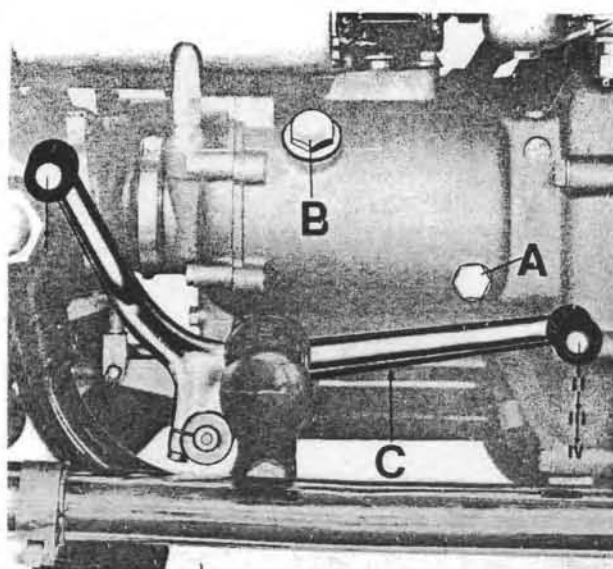

Fig. 78
### GEAR BOX CONTROL (see Fig. 78)
Note: To remove the above parts from clutch shaft it is necessary to position the shaft on a pressing machine and after having fitted tool No. 12905900 (see 23 on Fig. 78) press down enough to remove the two semicollars from shaft groove.
- Filler plug and drain plug (B and A on Fig. 78).